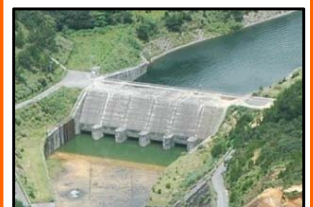

Fig.2-4 Fukuji Dam
- Fukuji Dam in Okinawa Pref.(Fig.2-4)
(1) Downstream spillway